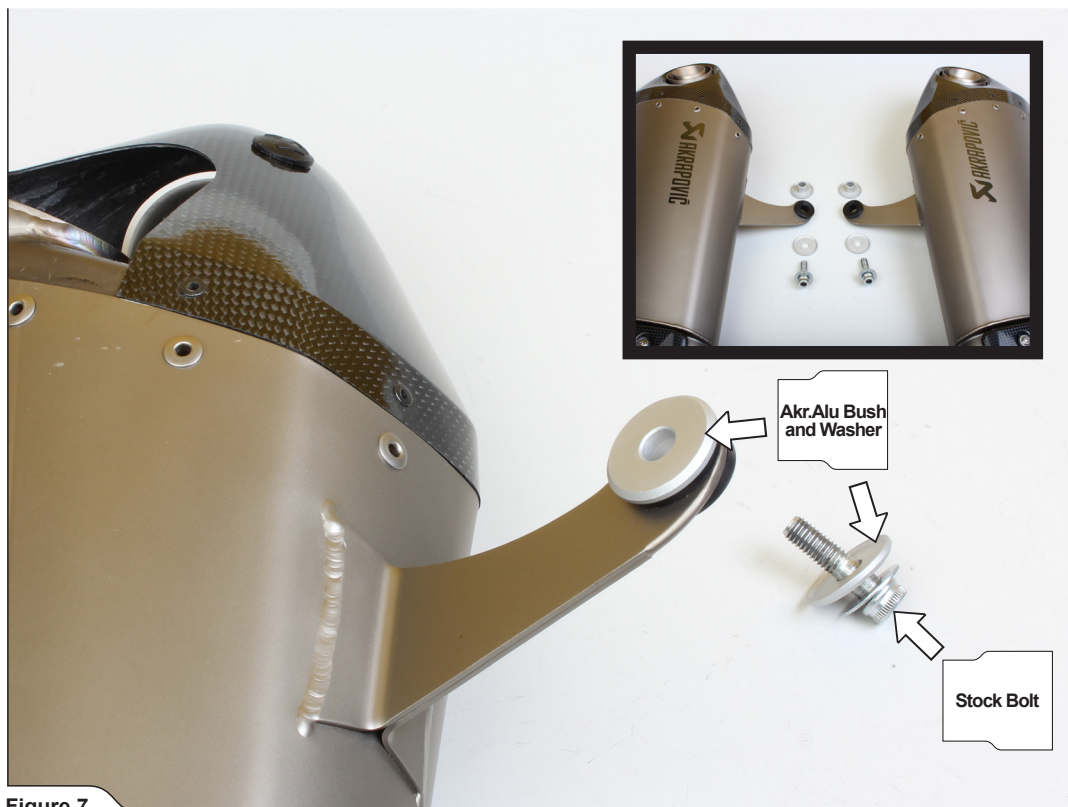

Figure 7
1. Correctly assemble the aluminium bushes from Akrapovič installation kit, into the rubber muffler's brackets (Figure 7).